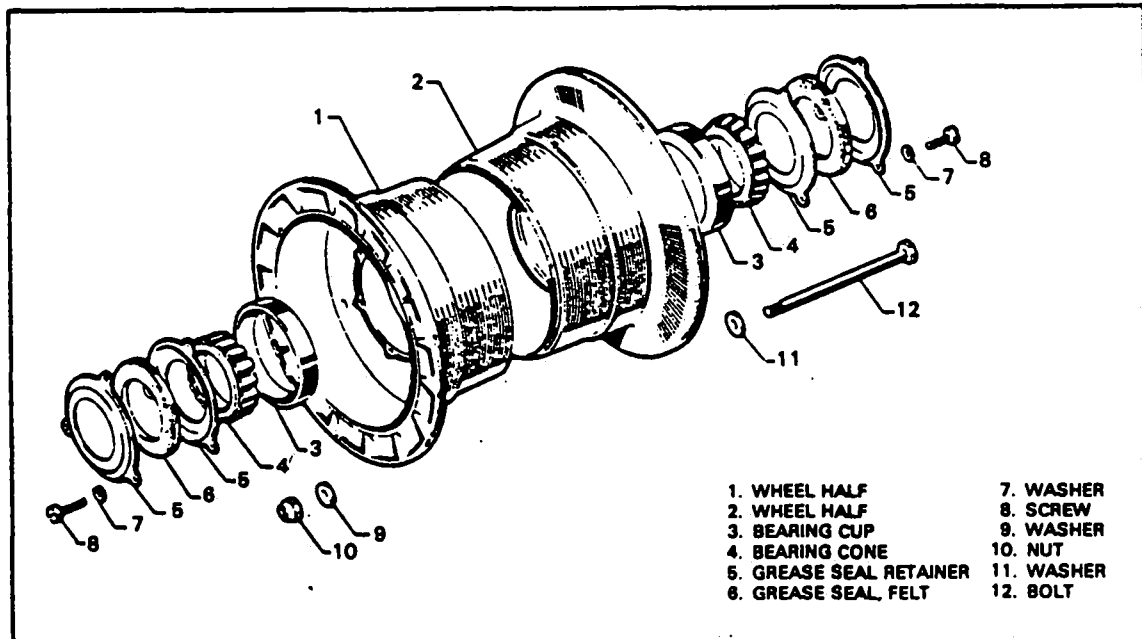

Figure 7-19. Nose Wheel Assembly
**7-56. REMOVAL AND DISASSEMBLY OF NOSE WHEEL.** (Refer to Figure 7-19.)
- d. The wheel may be disassembled by deflating the tire and removing the screws (8) securing the grease seal retainers (5).
- e. Remove the retainer and bearing cones (4).
- f. Remove the bolts (12) securing the wheel halves and separate them.
- g. The bearing cups (3) should be removed only for replacement and may be removed by tapping evenly from the inside of the wheel.